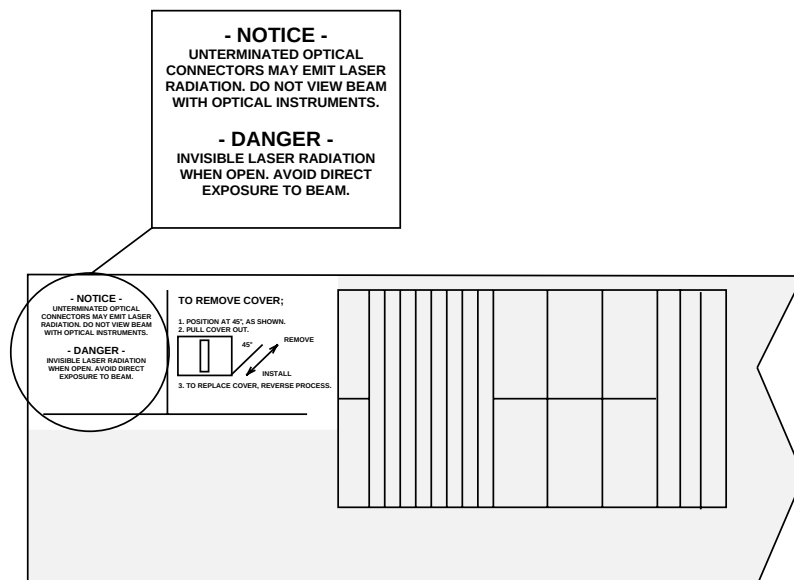

Figure 1. Safety Label on Inside of Front Shelf Cover
3. Since viewing lightwave emission directly with an optical instrument, such as an eye loupe greatly increases the risk of eye damage, an appropriate label must appear in plain view on the front of the main frame or lightguide termination/interconnection equipment. The safety label (Figure 1) shall read as follows: